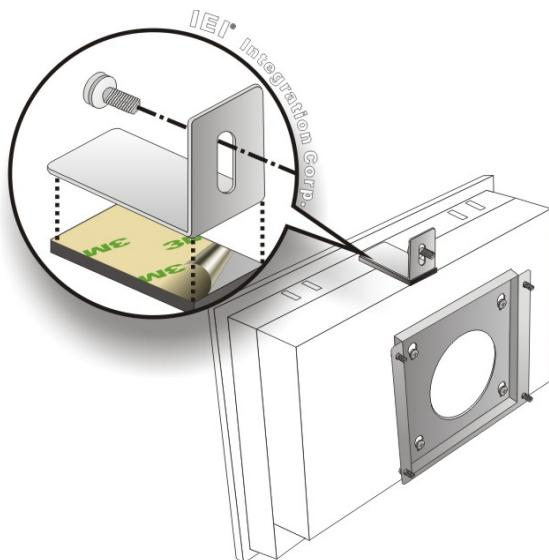

Figure 3-30: Secure the Chassis
Step 9: Secure the panel PC with the wall-mounting kit. To do this, stick the protective cushion to the wall-mounting kit first. Then, put the wall-mounting kit on the top panel of the panel PC. Carefully mark the location of the wall-mounting kit screw holes on the wall. Drill a pilot hole at the marked location on the wall. Secure the wall-mounting kit to the wall by inserting a retention screw into the pilot hole on the wall (Figure 3-30). This step is to avoid the panel PC being pushed apart from the wall-mounting bracket accidentally.